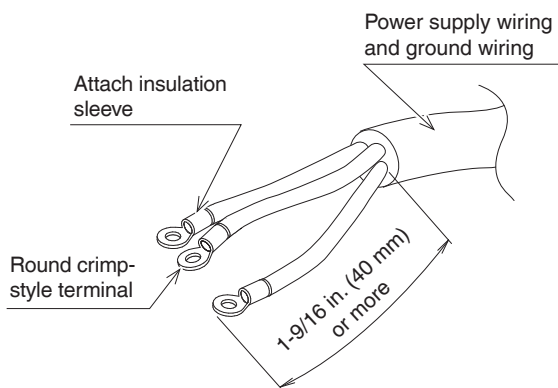

Fig. 28
- Be sure to peel off the sheath of power supply wiring more than 1-9/16 in. (40 mm). (Refer to Fig. 28)